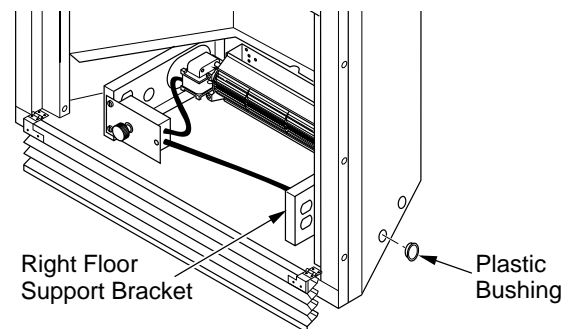

Figure 21 - Installing Plastic Bushing for Power Cord (Right Side Exit Shown) (VTGF33NR/VTGF33PR Shown)
- a. If your firebox is installed as a freestanding unit with an accessory mantel, determine whether the power cord will exit the left side or the right side of the firebox. Install one plastic bushing provided into the 1 1/2" hole in the floor support on the exit side. Install the second bushing provided into the 1 1/2" hole in the outer casing through which the power cord will exit (see Figures 21 and 22). Route power cord through plastic bushings and plug the power cord into a properly grounded three-prong wall receptacle near the firebox.